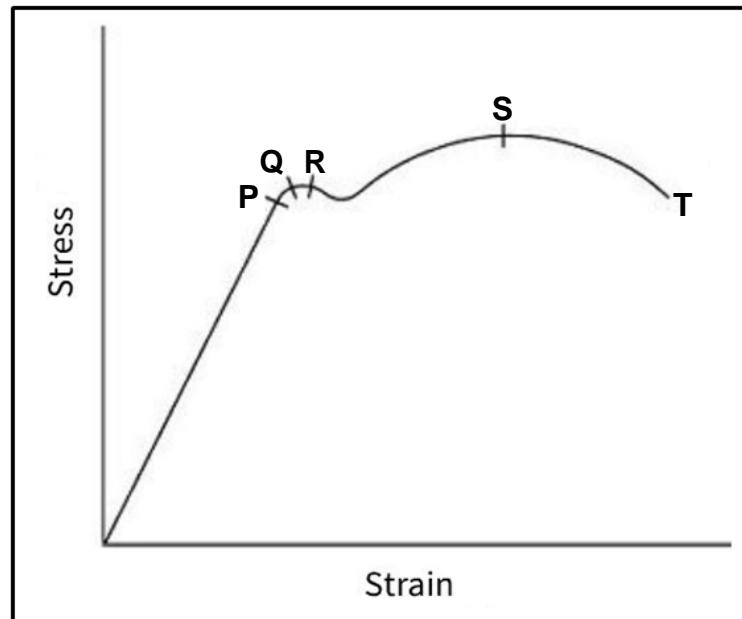

FIGURE 4.8
4.8 Identify **R** in the stress-strain diagram in FIGURE 4.8 below.